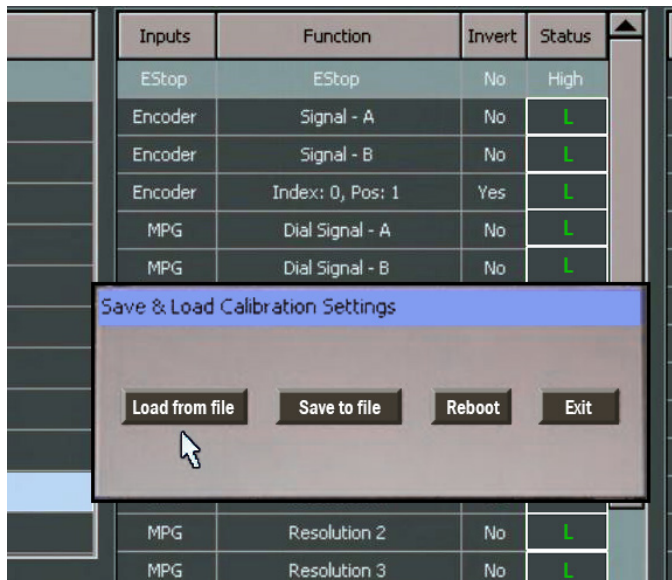

FIGURE 9
- C. Load from file. This loads all of the machine settings into the MASSO board (see Figure 9).